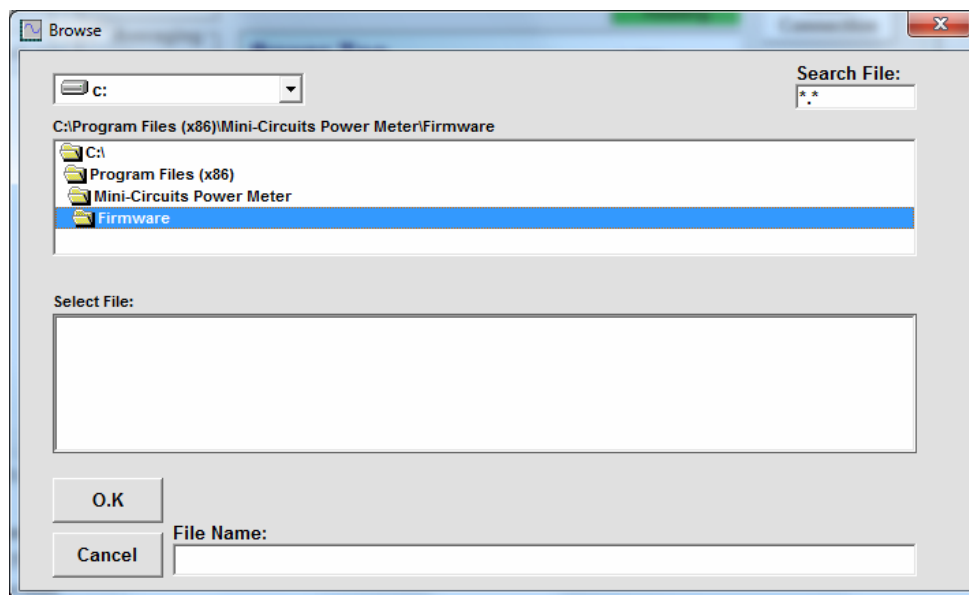

Figure 3.7.5: Firmware - Browse Window
3.7.5 A browse window will open to the firmware directory under the path you selected when installing the GUI program (See **Fig. 3.7.5**). Navigate to where you saved your firmware file in **section 3.7.1**, Select the firmware version you wish to install and click 'O.K'.